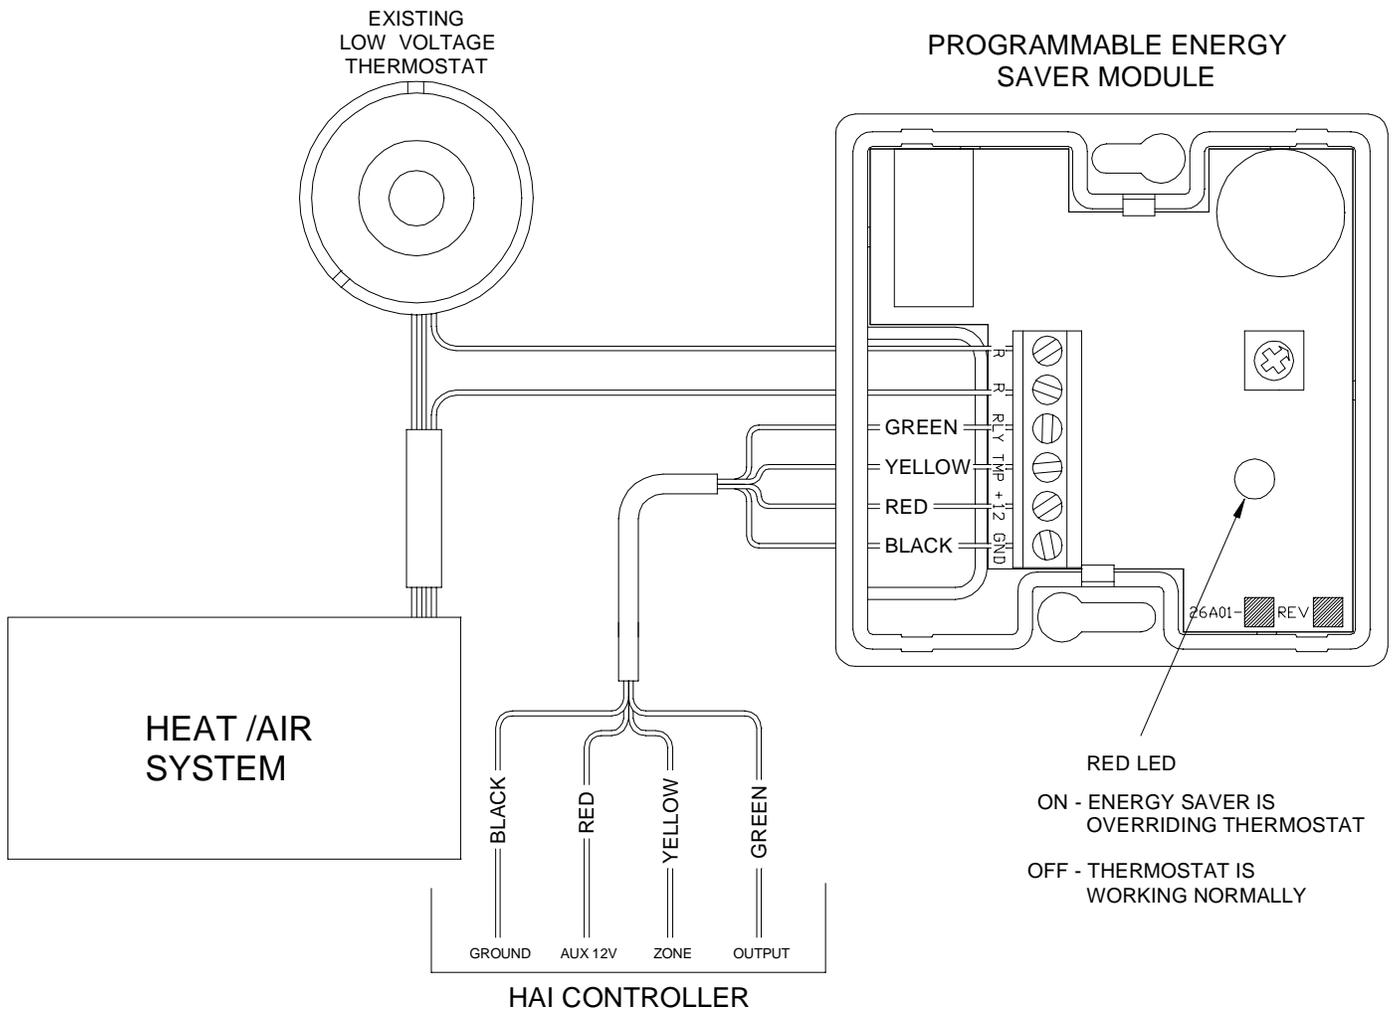

FIGURE 1 – PESM CONNECTIONS
2. Run a 4-conductor wire from the controller to each PESM. Connect as shown in FIGURE 1.
3. The PESM should be mounted on an interior wall, preferably close to the HVAC thermostat, using the supplied wall anchors and screws. Orient the PESM as shown in FIGURE 1 for the optimal temperature reading.